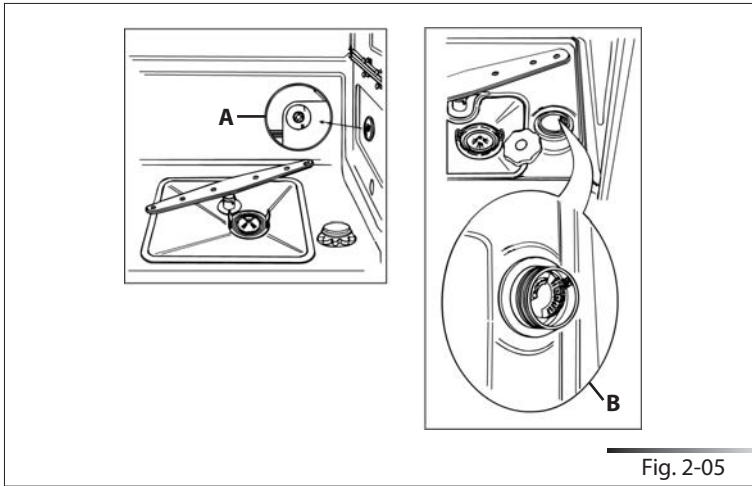

Fig. 2-05
- inside the plastic ring nut on the right-hand side (ref. A fig. 2-05) inside the dishwasher;
- inside the water softener, just under the cover (ref. B fig. 2-05).